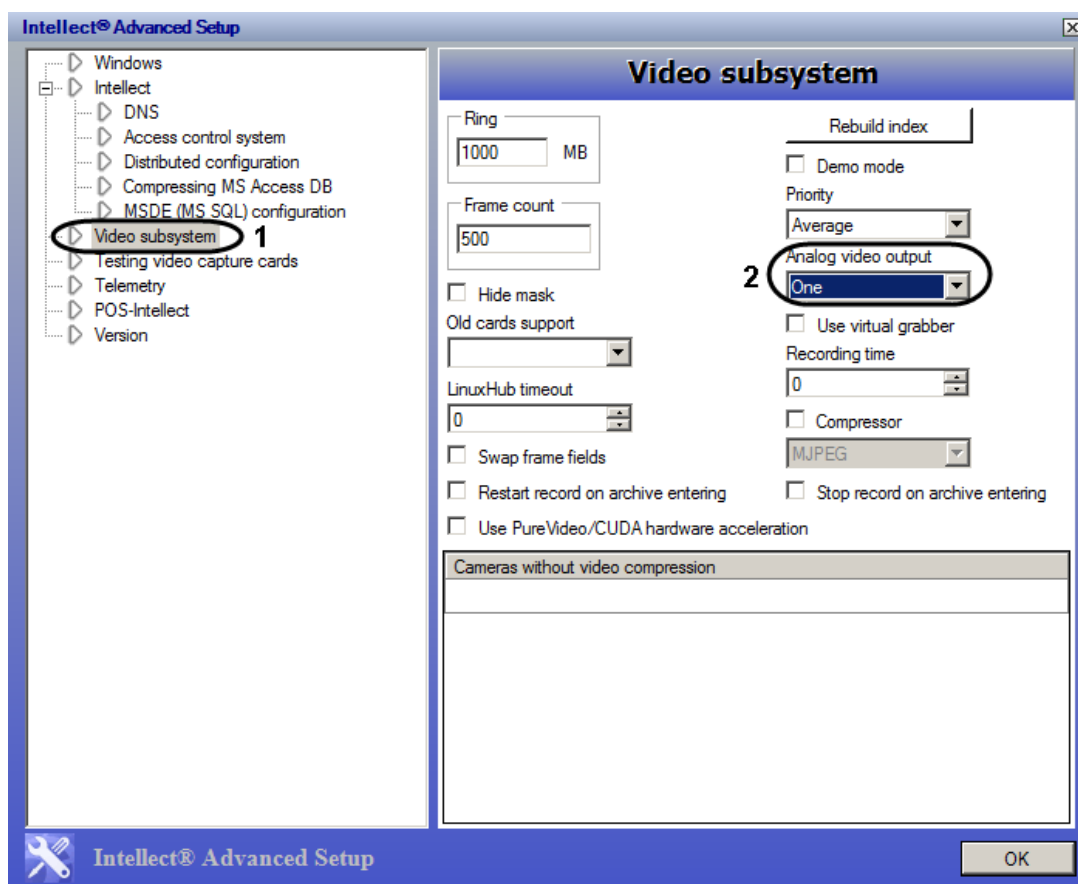

Figure 3.1-8 Extended Intellect configuration. Changing the value of the Analog video out parameter
2. Select the **Video subsystem** section (Figure 3.1-8, 1).
3. In the **Analog video out** list select the **One** item to activate outputting video from cameras connected to different video capture cards to one analog monitor (Figure 3.1-8, 2).
4. To save changes click **OK** (Figure 3.1-8).